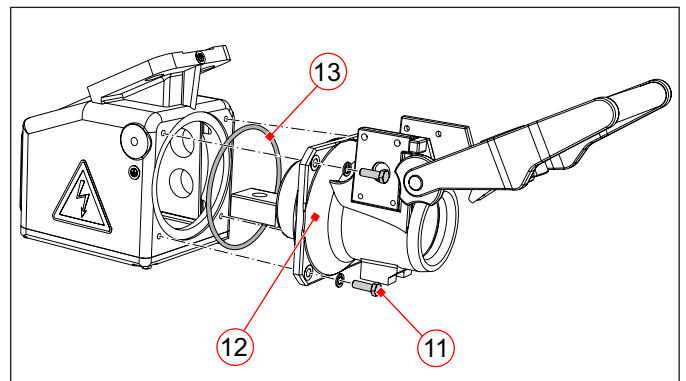

Fig. 50: Replace the seal (13) of the bottom part of the shell
Replace the seal of the bottom part of the shell (Fig. 50)
- ▶ Remove the bottom part of the shell (for this, see section **"Replace the seal of the bottom part of the shell (Fig. 50)"** on page 39).
- ▶ Release the 6 hexagon screws M6 (20) of the mounting ring (21) and remove the mounting ring.
- ▶ Pull the complete coupling insert (22) out of the bottom part of the shell (23).
- ▶ Lubricate the sliding surfaces of the contact socket in the new, complete coupling insert (22) with contact grease (e.g. contact grease copper 02770 of the company Druseidt).
- ▶ Insert the new coupling insert (22) into the bottom part of the shell (23).
- ▶ Attach the mounting ring (21) to the bottom part of the shell (23) and screw on with the 6 hexagon screws M6 (20) and spring lock washers.
- ▶ Check the seal of the bottom part of the shell (23) for damages. If there are damages, replace the seal (for this, see section **"Replace the seal of the bottom part of the shell (Fig. 50)"** on page 39).
- ▶ Then attach the bottom part of the shell (23) to the receptacle shell and screw on with the 4 hexagon screws M8 (11) including spring lock washers.